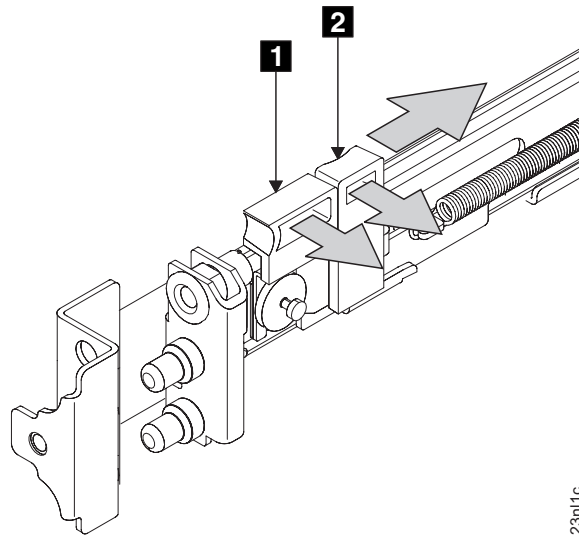

Figure 47. Opening the front latch-lock carrier assembly
3. Gently push the latch lock **2** away from the rail as you move the latch lever **1** toward the far end of the rail (Figure 47 on page 65). The latch-lock carrier assembly slides against the spring tension.